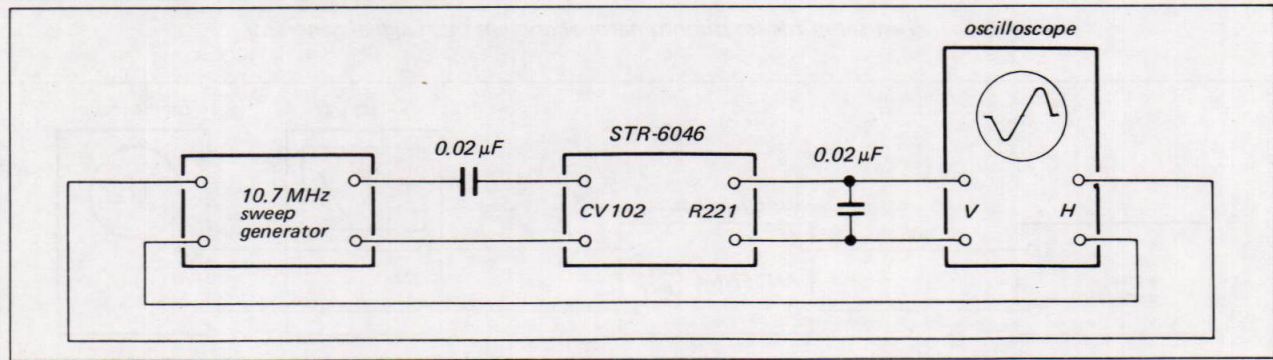

Fig. 3-5. Test setup for discriminator alignment by sweep generator
1. With the equipment connected as shown in Fig. 3-5, set the sweep generator's controls as follows: